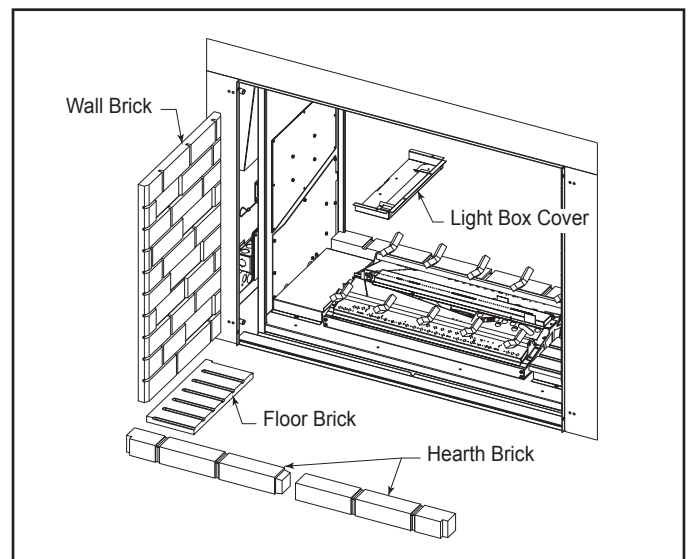

Figure 10.10 Install Brick
4. Place the wall brick panels against the firebox walls, setting on the floor and hearth bricks. The wall brick will be held in place by the brick retainer tab on the light box cover. See Figure 10.10.